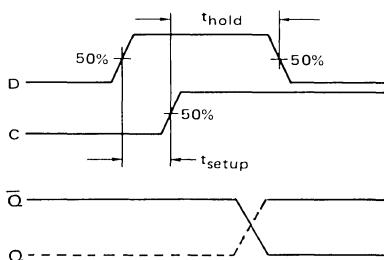

FIGURE 11a – SETUP AND HOLD WAVEFORMS FOR MECL LOGIC DEVICES
sent at the Data input (D) to insure proper operation of the device. The t_{hold} is defined similarly as the minimum time after the positive transition of the clock pulse (C) that the information must remain unchanged at the Data input (D) to insure proper operation. Setup and hold waveforms for logic devices are shown in Figure 11a.